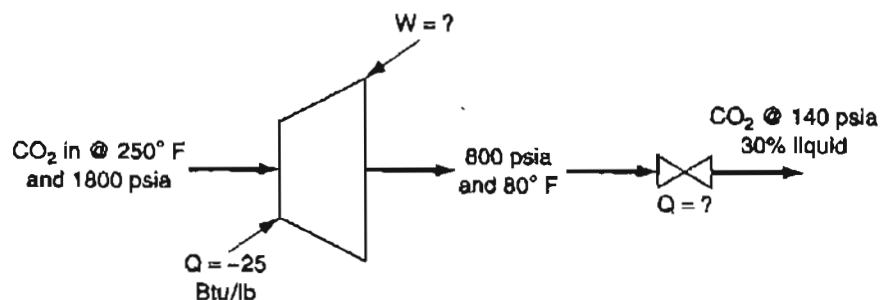

Figure P24.25
- **24.25 A turbine is installed between the supply stream at 1800 psia and 250°F and the outlet stream. The exit stream from the turbine is at 800 psia and 80°F, and 25 Btu/lb of fluid are lost from the poorly insulated turbine. Indicate the outlet states from the turbine and the throttling valve as points on the CO₂ chart. See Figure P24.25